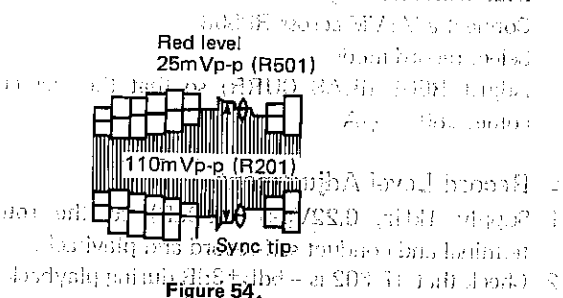

Figure 54.
- 4) Adjust sync tip to 110mVp-p as shown in Figure 54 with R201 (REC Y LEV).